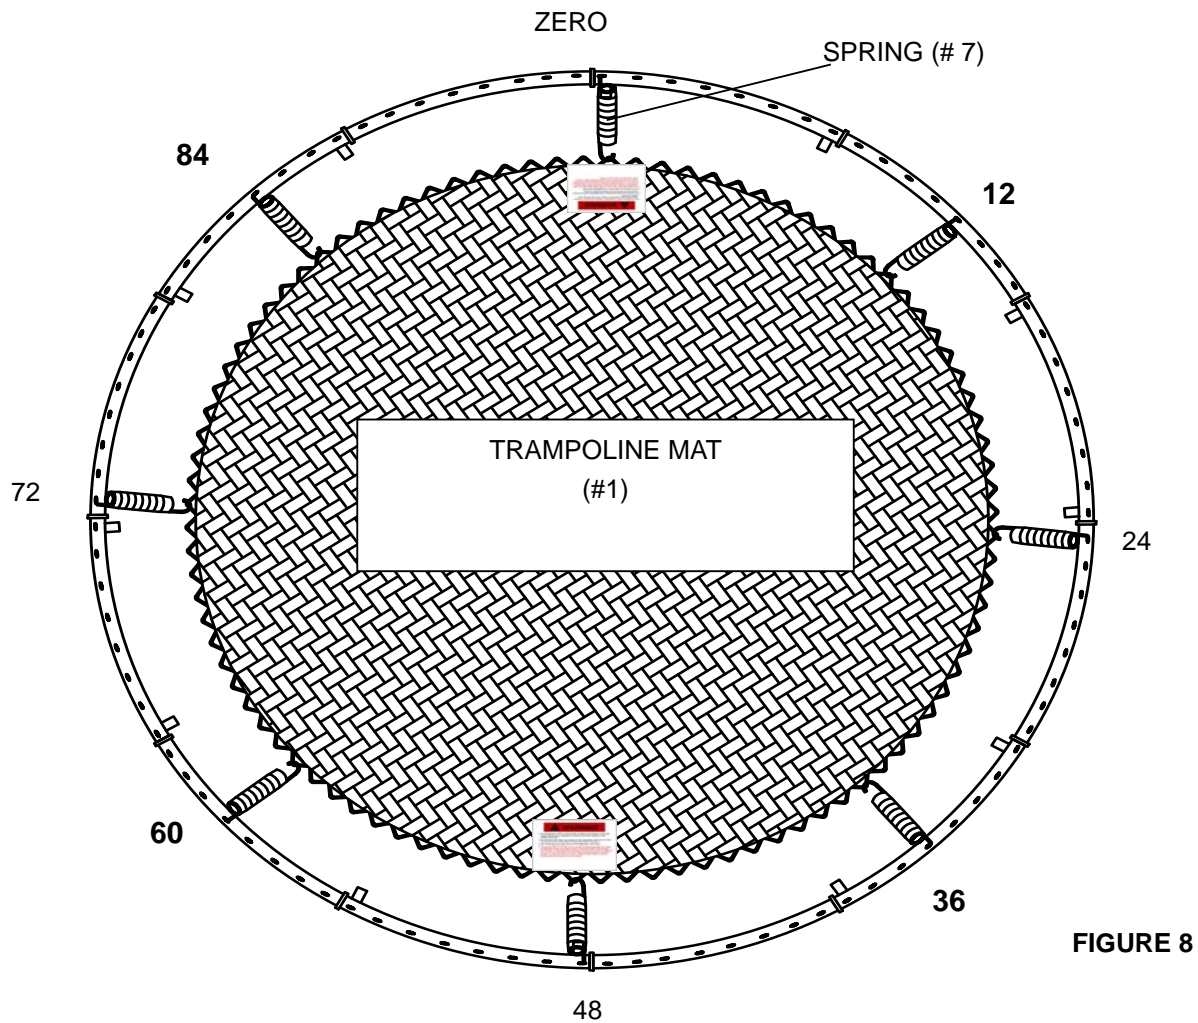

FIGURE 8
- D. Attach a spring at every 12 holes and corresponding Triangle-Rings. For even distribution of tension and ease of assembly, springs should be placed on opposite sides of the mat/frame.....i.e. 12 then 60, 84 then 36, etc. In addition to the previously installed springs, you should have springs at 12, 36, 60 and 84 as shown in FIGURE 8.